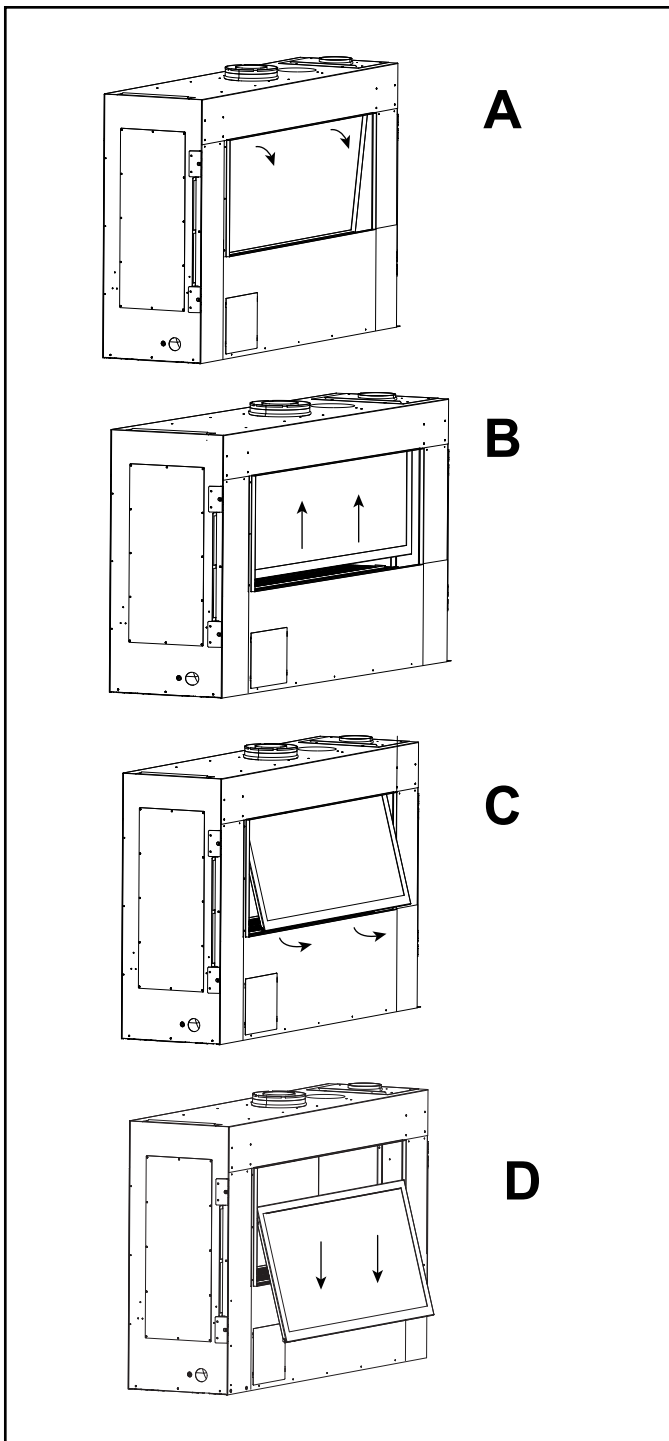

Figure 11.15 Removing Firebox Glass
5. Press glass suction cups firmly against glass and ensure that an adequate hold has been created. Lift up, then lower the glass assembly downward toward the firebox control cavity. Tip it outward slightly and lift out of appliance. See Figure 11.15.